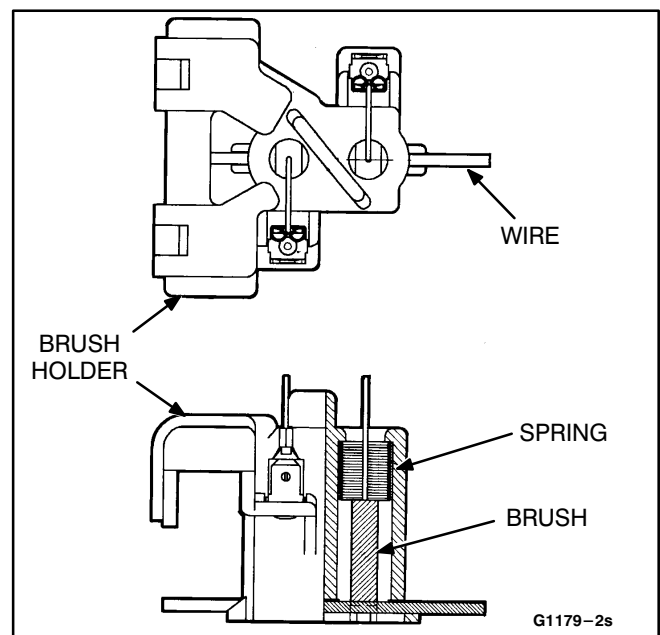

FIGURE 9-11. BRUSH REPLACEMENT
2. Remove the brushes and springs from the holder and replace with new parts (see Figure 9-11 on Page 9-12).